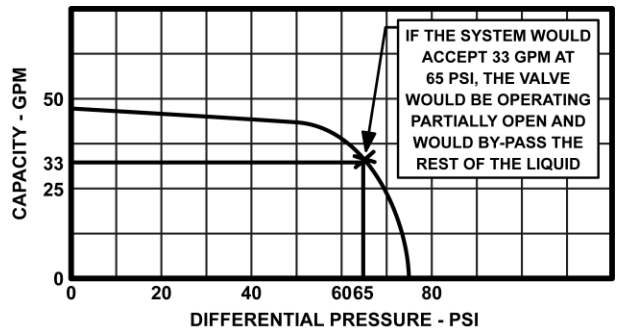

Figure 5
A) In cases where the system to which the pump is delivering liquid has a variable resistance to fluid flow, the Return-To-Tank Pressure Relief and In-Line Pressure Relief Valves can serve as a capacity regulating device. Examples of this would be multiple LPG bottle or tank filling systems. For instance when only one bottle on a manifold is being filled at a time, the valve will open and bypass the quantity of liquid that cannot be forced through the system. Refer to Figure 5.